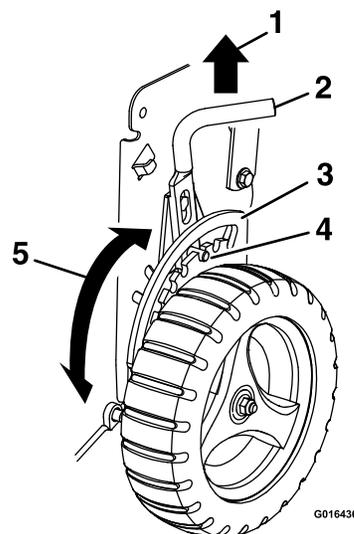
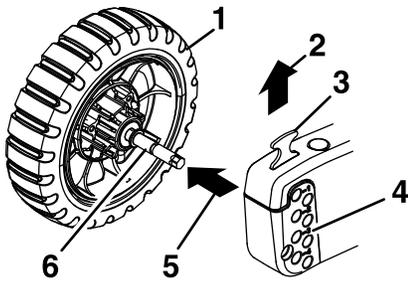

Figure 12
Figure 14
3. Set all four wheels to the 2 1/2 inches (6.4 cm) cutting height (see Figure 12 and Figure 14).
1. Pull the wheel height adjustment rod upward to release the pin from the notch in the adjustment bracket (Figure 12).
- Pull up on the height lock and pull the front wheel shaft assembly outward as shown in Figure 14.